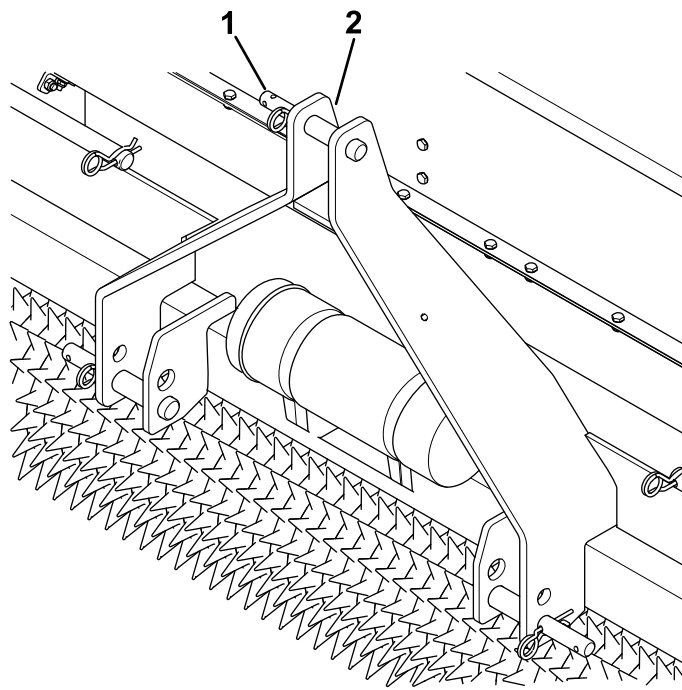

Figure 12
6. Install the hairpin cottes to the hitch pins (Figure 12).